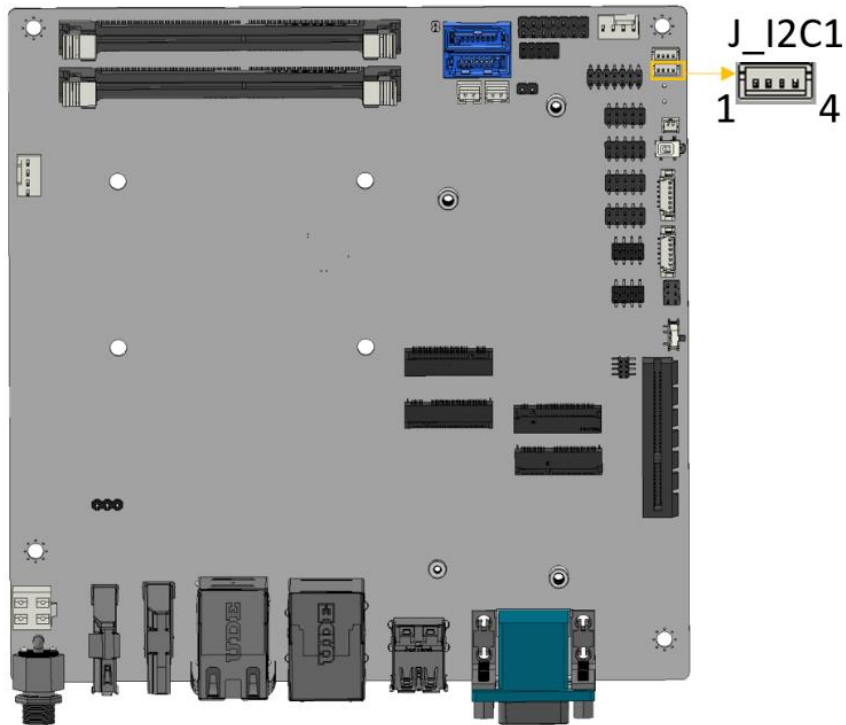

Figure 3-16: I²C Connector Location
- CN Location:** See **Figure 3-16**